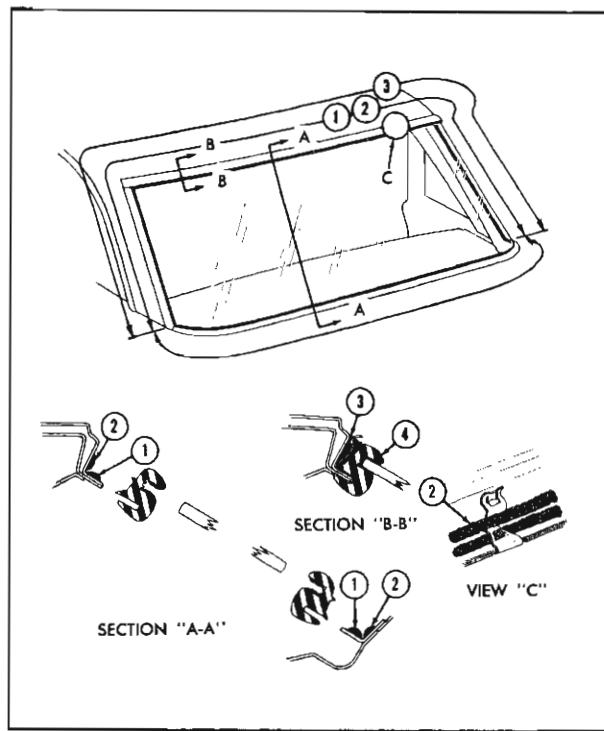

Fig. 14-3 Back Window Sealing
3. On styles using clip retained reveal moldings, check retaining clips and replace damaged or defective clips. Prior to installing clips, apply a continuous ribbon of medium-bodied sealer (approximately $\frac{1}{4}$ inch thick) along the pinchweld and retaining flange (1 in Fig. 14-3) completely around the opening.
4. Apply a second continuous ribbon of medium-bodied sealer (approximately $\frac{1}{4}$ inch thick) along outer wall of back window opening (2 in Fig. 14-3) completely around opening.
7. On styles with clip retained reveal moldings, apply sufficient medium-bodied sealer to fill void between rubber channel and body opening up sides and across top of window (3 in Fig. 14-3).
8. Using a pressure type applicator, apply an approved weatherstrip adhesive (black) between outer lip of rubber channel and glass (4 in Fig. 14-3) completely around rubber channel.